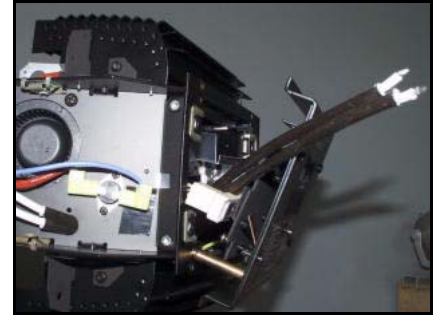

Fig. 49. Lamp wires with sleeve
- pull them out at the back. Adjust the sleeve as shown in Fig. 49..